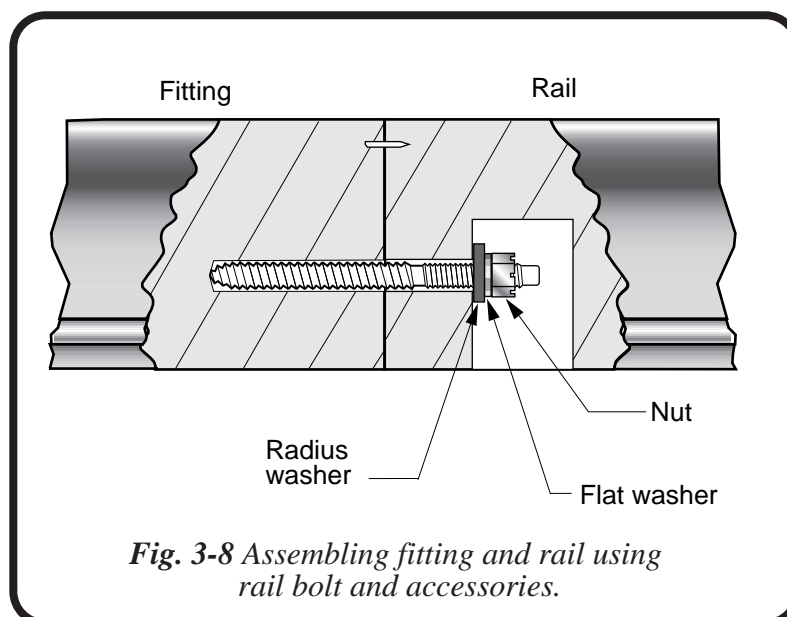

Fig. 3-8 Assembling fitting and rail using rail bolt and accessories.
7. Use the radius washer, flat washer, and nut (in that order) to attach the two pieces together. Please note Fig. 3-8 here.